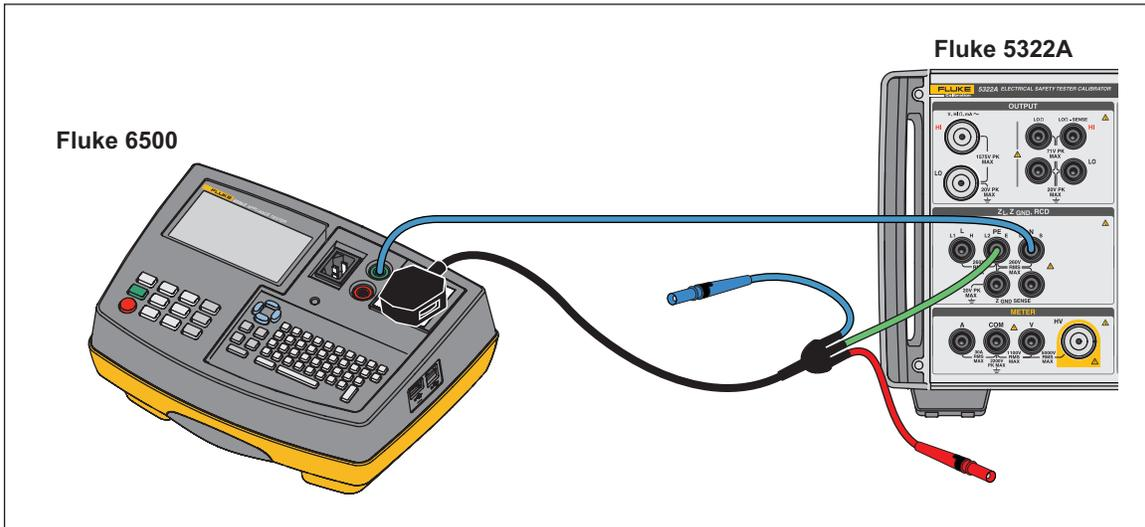
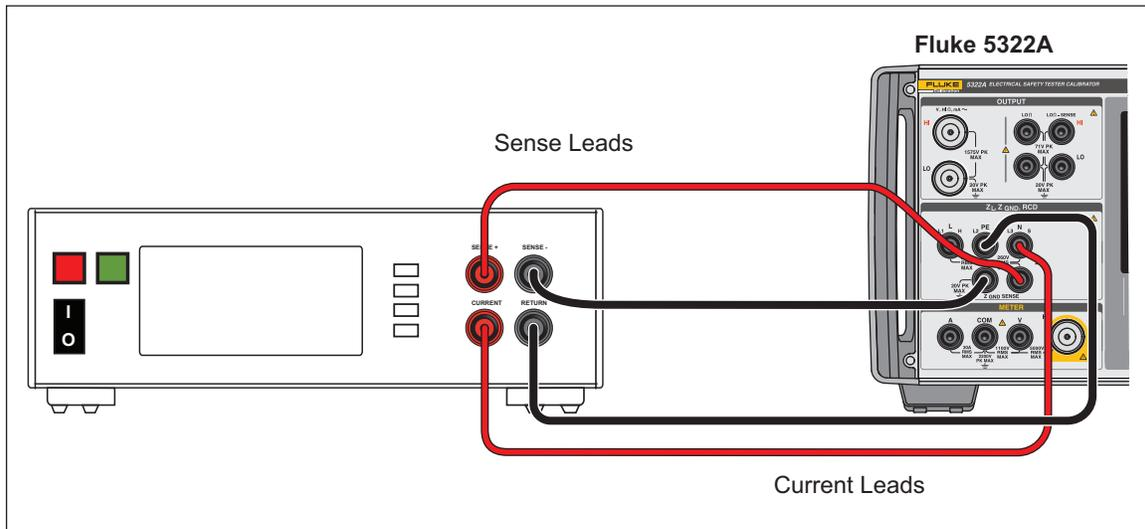

Figure 42. Ground Bond Resistance Calibration on Fluke 6500 Using the Cable Adapter
Figure 43. Ground Bond Resistance Calibration on Bench Ground Bond Tester
2. Connect the DUT to the Z_{GND} PE and N terminals of the Product as in Figure 42 and Figure 43.
2. Connect the Product as shown in Figure 43.